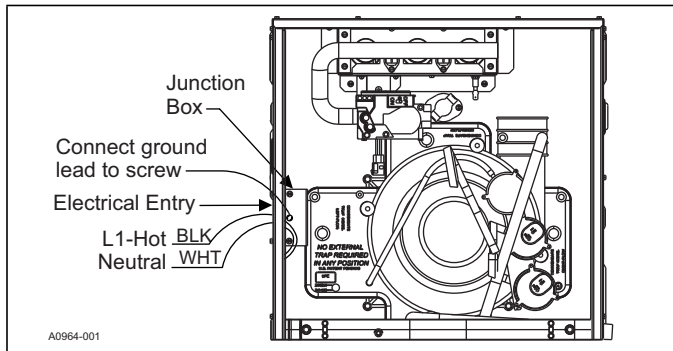

FIGURE 13: Electrical Wiring
2. Remove the wiring box cover screws. Route all power wiring through a conduit connector or other proper bushing that is field installed into the unit opening and the junction box. In the junction box there is a black wire, a white wire and a green ground screw. Connect the power supply as shown on the unit's wiring label located on the inside of the blower compartment door, or the wiring schematic in this section. Connect the black wire to L1 (hot) from the power supply. Connect the white wire to neutral. Connect the ground wire (installer-supplied) to the green (equipment ground) screw. An alternate wiring method is to use a field-provided 2" (5.1 cm) x 4" (10.2 cm) box and cover on the outside of the furnace. Route the furnace leads into the box using a protective bushing where the wires pass through the furnace panel. After making the wiring connections replace the wiring box cover and screws. Refer to Figure 13.
3. The furnace's control system requires correct polarity of the power supply and a proper ground connection. Refer to Figure 13.